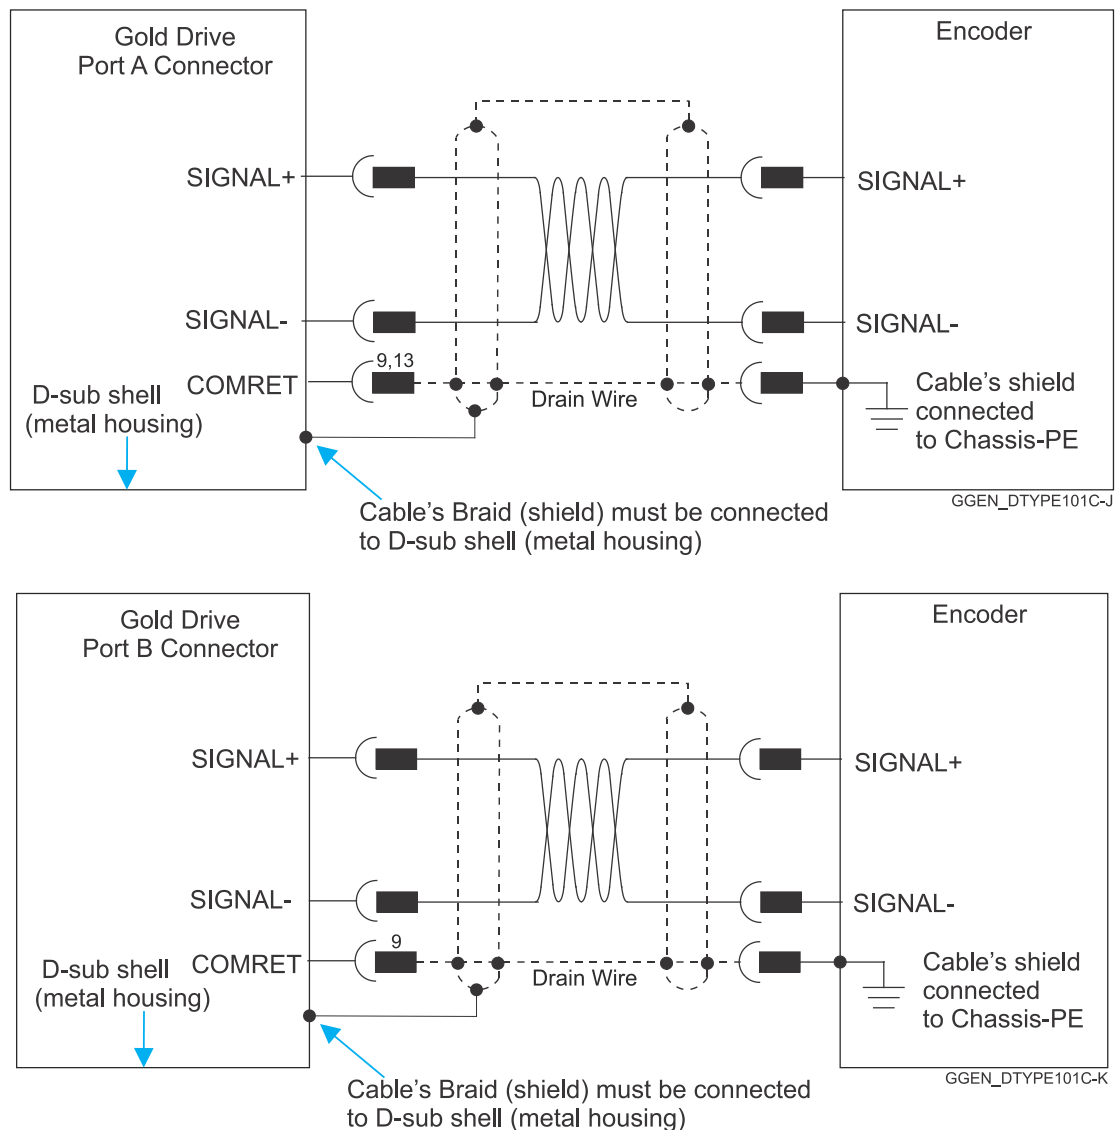

Figure 6: Feedback Port A and B Cable Assemblies
- a. At the drive, connect the feedback drain wire to one of the COMRET terminals in the D-Type feedback connector (Figure 6).